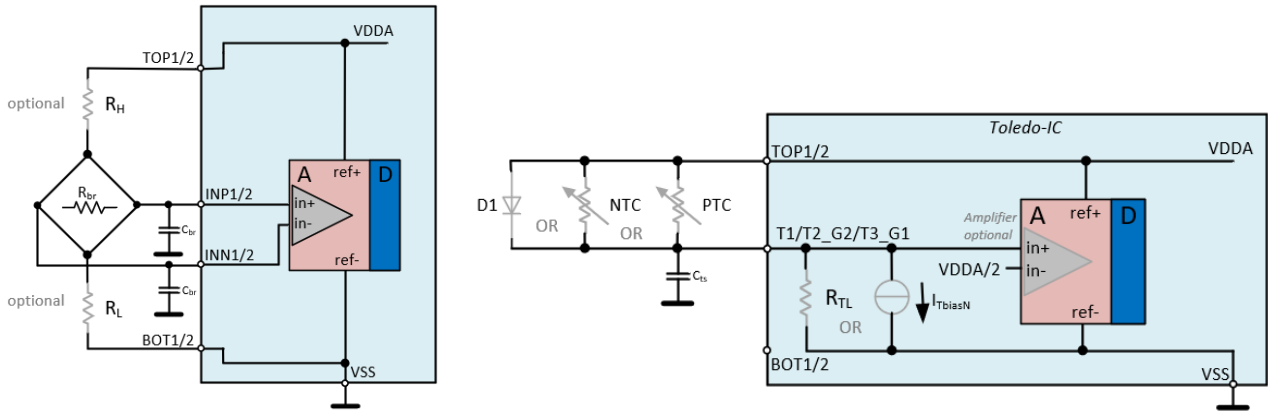

Figure 178. Cbr and Cts Capacitors
- Cbr [nF] and Cts [nF] fields: enter the values to the fields within the allowed range of 0nF to 2nF, the capacitors are displayed in Figure 178.